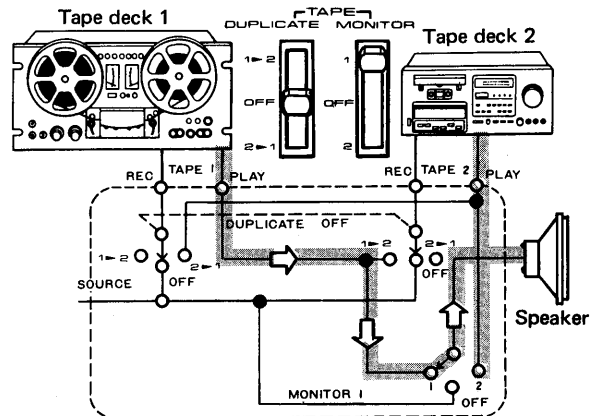

Fig. 7
1. As shown in Fig. 7, set the tape monitor switch to 1 if the tape deck is connected to the TAPE 1 jacks. Set the tape monitor switch to 2 if it is connected to the TAPE 2 jacks.